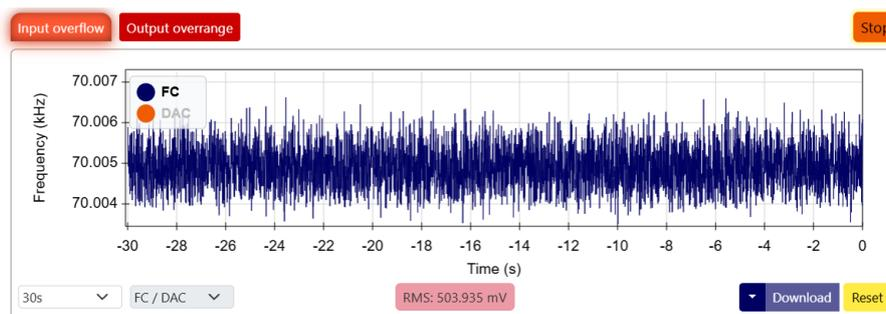
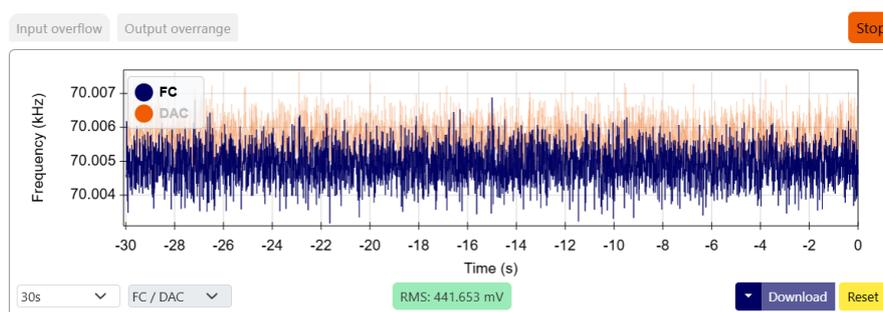

Figure 40: Screenshot of the "Results" step with "Input overflow" and "Output Overrange" warnings triggered
Figure 41: Screenshot of the "Results" step with no warnings
6. The RMS (Root Mean Square) value shown below the graph indicates the amplitude of the input signal. A green indicator (100–500 mV) signifies an optimal signal range, and frequency tracking is considered sufficient for starting the measurement (see Figure 41). If the RMS value falls below 100 mV, the input signal is too weak, and the indicator turns orange. In this case, increase the drive amplitude until the RMS exceeds 100 mV and the indicator turns green. If the RMS value exceeds 500 mV, the input signal is too strong, and the indicator turns red (see Figure 40). Reduce the drive amplitude until the RMS falls below 500 mV and the indicator returns to green.
8. If "Output Overrange" warning appears above the frequency plot (Figure 40), increase the "Output Range" in the drop-down menu located below the "Results" graph, and press "Calculate Offset".
9. If no warnings are present, PHILL™ has locked onto the resonance frequency of the chip and you can continue to the next measurement step. Figure 41 shows the "Results" step in the case where everything is properly set and no warnings are present.
To monitor the analog output signal going to the FTIR, click on the "DAC" label in the graph legend in the "Results" step. The "FC" label represents the measured resonance frequency in kHz (see Figure 40, 41), while the "DAC" graph represents the converted signal in Volts.
- After the step scan is completed, ensure that the analog output of PHILL™ does not indicate an "Output Overrange" flag (see Figure 40). If the "Output Overrange" flag was triggered, increase the "Output Range" in the text box below the results step, click the "Calculate Offset" button, and then restart the step scan. For more information, refer to the previous Section 5.2.3.